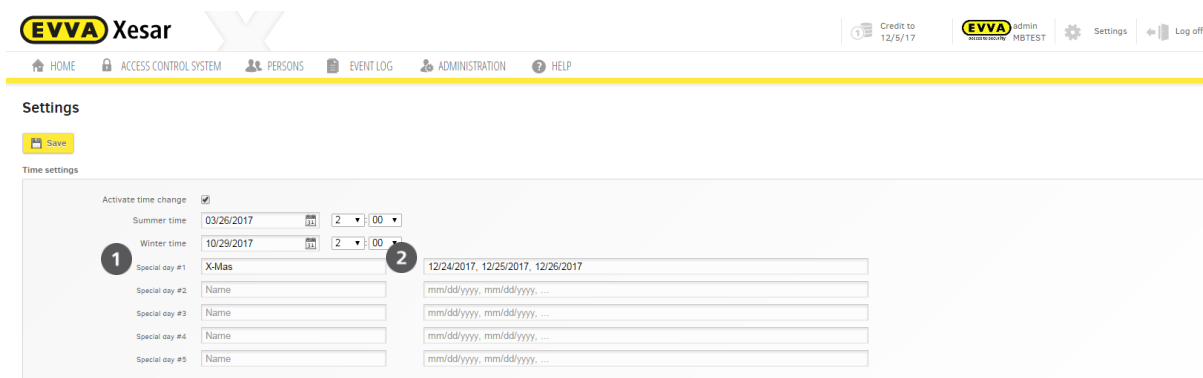

Figure 108: Configuring special days
- You can specify any designation for the special day. Enter the desired description in the corresponding field, in this case "Christmas" ❶ (Figure 108: Configuring special days).
In total, you can assign fifty days ❷ (Figure 108: Configuring special days), for instance you can assign fifty data records to a special day or five special days with ten data records each. Each date must be specified in DD.MM.YYYY format and several dates must be separated by a comma.
(Figure 108: Configuring special days) to **activate** the special day function.
The "Christmas" special days ❶ (Figure 109: Assigning special days) are **not** ticked. As a result, office mode on the previously specified days 24.12.2017 - 26.12.2017 (refer to Figure 108: Configuring special days) is **automatically deactivated** as you did not specify automatic office mode on the "Christmas" special days and special days take precedence over "normal" automatic office modes. Automatic office mode then once again applies from 27 December 2017.